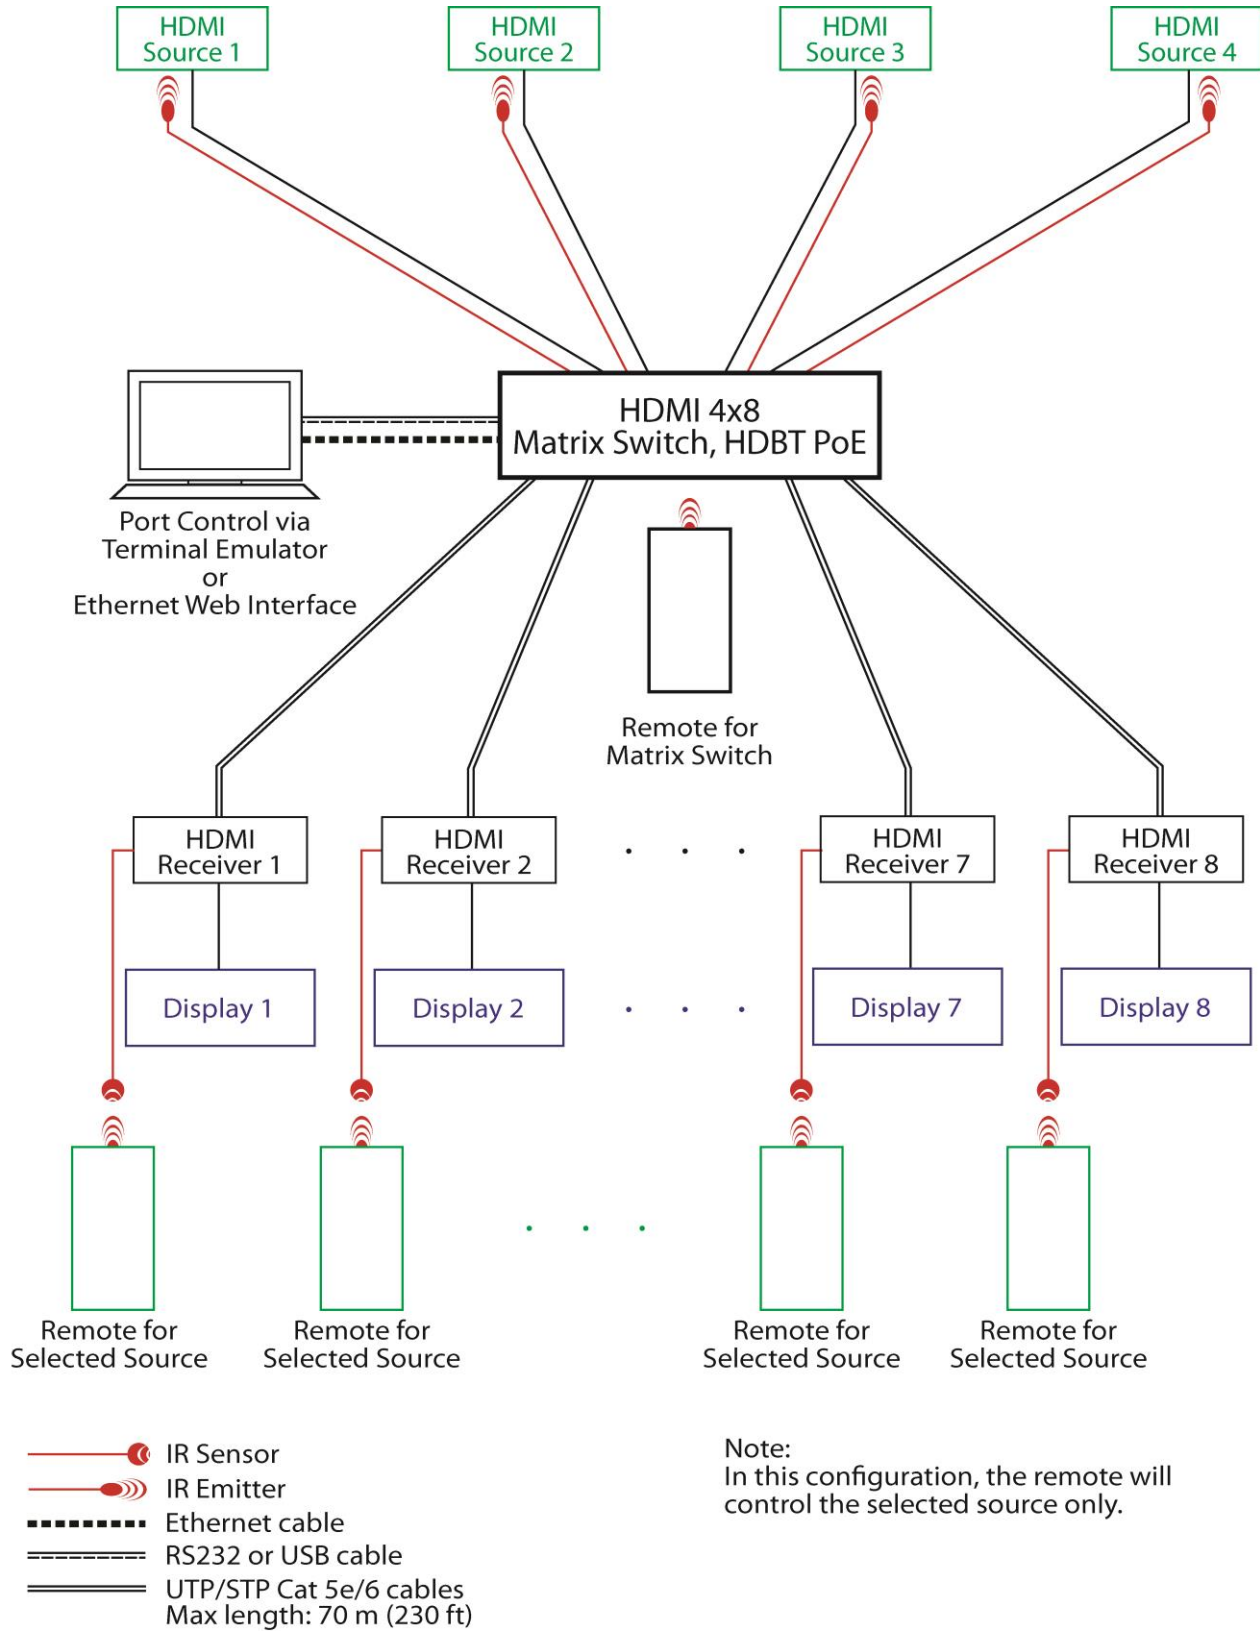

Figure 8: Typical Configuration (I)
10. Figures 8 and 9 show some typical configurations.
Using source remotes, sources can be controlled at display locations via receivers (see Figure 8). To do so, make sure that the IR emitter cable leading from the *IR Emitters* port 1 on the back of the Matrix Switch has its emitter end placed in front of IR sensor on source 1. Do the same for all ports and all sources (see Table 3).